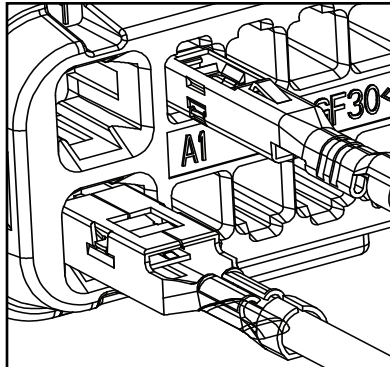

FIGURE 2
- Orient the female terminals correctly with each terminal position opening in the retainer of female connector assembly as shown in Figure 2.